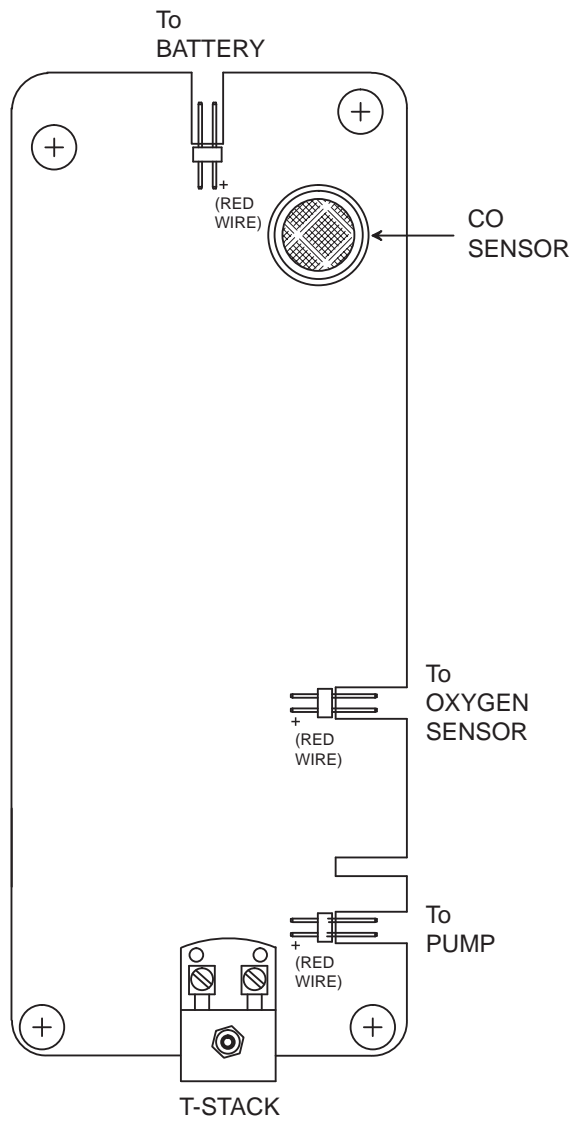

Figure 5-4. CO Sensor Location
6. Plug the O₂ sensor's electrical connector into the printed circuit board (observe polarity, see Figure 5-4), and then reassemble the analyzer.
2. Gently pull CO sensor out of its socket (see Figure 5-4).
8. Connect the pump's electrical connector to the circuit board, routing the wiring as was noted in Step 3 (observe polarity, see Figure 5-4).